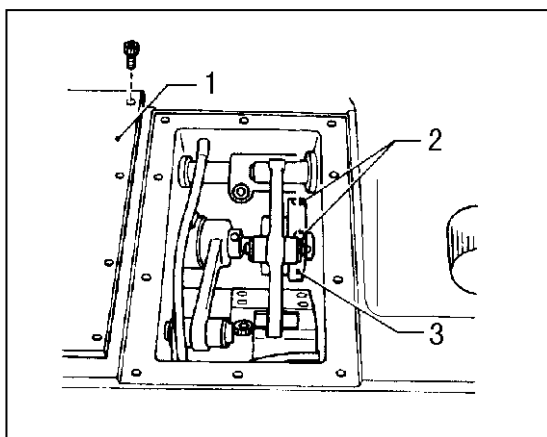

Fig.28
(1) Horizontal feed direction (shown by Fig.28)